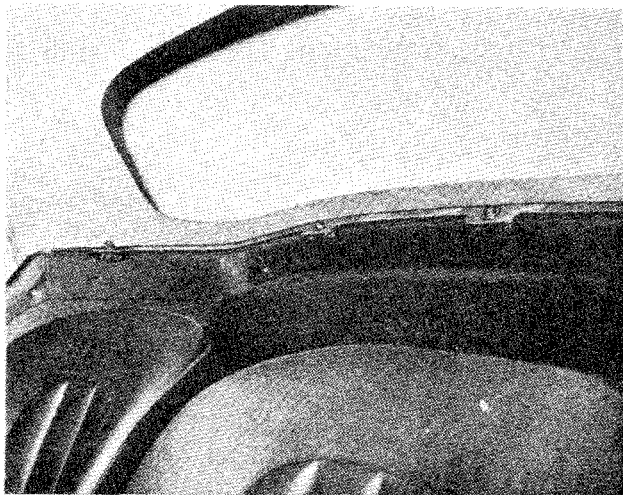

Fig. 7 Hard Top positioned on Elbow Rail at side and rear.
- (b) The rear of the canopy is then secured to the elbow rail with five bolts. (Fig 7).